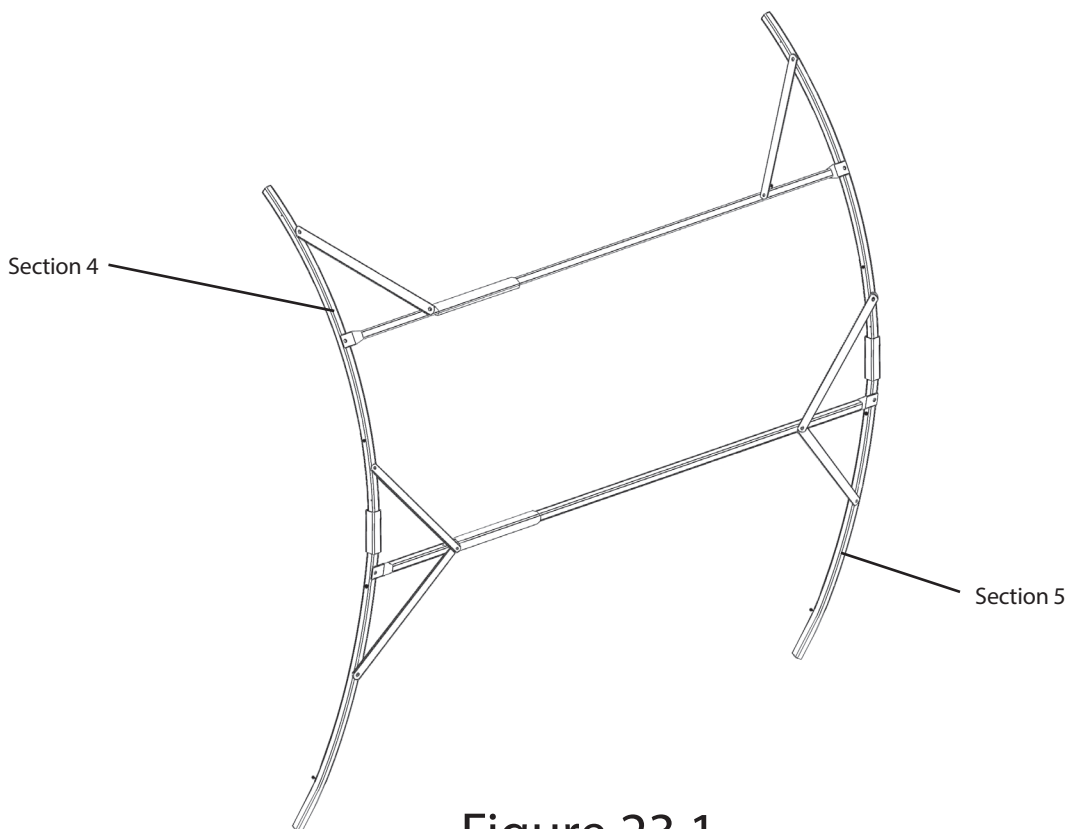

Figure 23.1
STEP 15: Install Section 4 that was created in Step 13, with Section 5 that was just created in Step 14, resulting in the frame section illustrated in Figure 23.1. Using the hardware connection in (2) places, align and fasten the (2) CROSS MEMBER BRACES "G" from Section 5 into the corresponding holes on Section 4 with (2) Bolts and (2) Nuts, resulting in the frame v in Figure 23.1